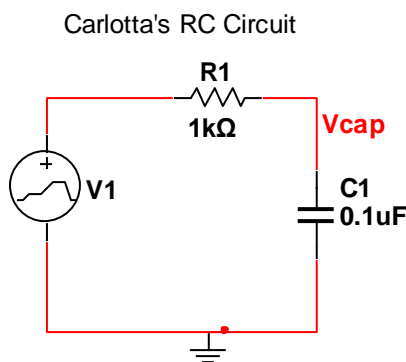

Figure 6: RC circuit with PWL source
5. Close the piecewise linear voltage source data table. Double click on the wire above the capacitor and name the node **Vcap** and **check show net name**. Your circuit should now look like Figure 6.